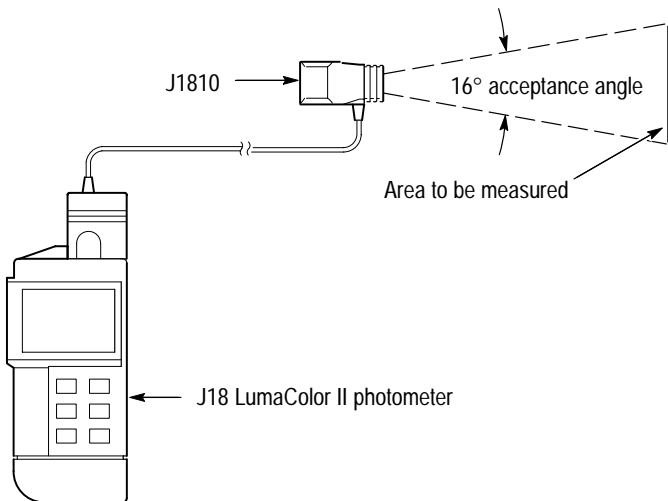

Figure 1–16: J1810 setup for chromaticity measurement of an illuminated surface
3. Point the J1810 head at the surface to be measured, at the desired distance from the surface. Refer to Figure 1–16.